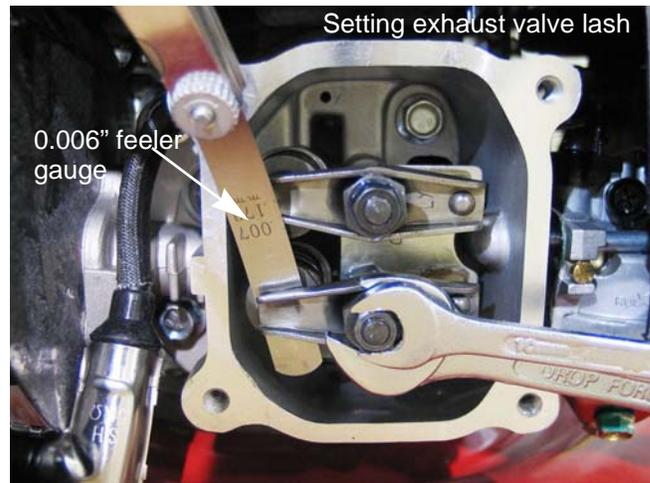

Figure 1.15
8. Exhaust valve lash (bottom valve) should be: See Figure 1.15.
9. Use a 10mm wrench to loosen the jam nut, and a 14mm wrench to adjust the rocker arm fulcrum nut. See Figure 1.15.